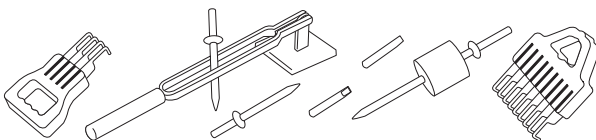

Figure 505.3
4. You have a choice of five pulling methods and a shrinking tip (Figure 505.3). The damaged area will determine which electrode is to be used. Heavily damaged panels or long creases can be repaired using the wiggle wire in conjunction with the bear claws. Pulled by hand with the four finger or mechanically with the nine finger claw. By using the Bear Claws your pull power is spread over a wider area. The quality of finish you want will determine how and with which pull rod you finish the metal. It is possible by carefully pulling and shrinking to finish a panel repair and not have to use a dolly or hammer, only a file.